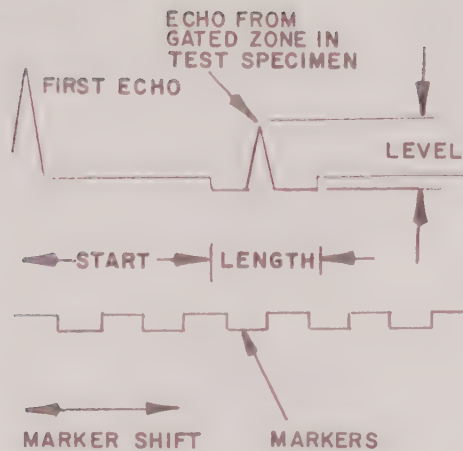

Figure 9-9
Printed circuit board containing circuitry for generation of the square wave used to establish the "gate" or "zone" and the gated video amplifier which passes signals from the UM Reflectoscope through the "zone" to the Recorder Board. Also sends gate image signal to UM Reflectoscope Display (figure 9-9).
Provides coarse positioning of the gate start (figure 9-9).
A coarse control which sets the width (α length) of the gate figure 9-9 .
Establishes the signal level (on the UM Reflectoscope display) at which alarms, relays or on-off printing will be activated or initiated (figure 9-9).
Sets up systems to alarm when any displayed signal within the gate (figure 9-9) increases above the level set by the LEVEL control. The alarm buzzer will sound and the panel light will remain on for a minimum of 0.1 sec., or as long as a signal above the level set remains in the gated area. Alarm circuits reset automatically when the signal decreases in amplitude below the alarm level, or is no longer in the gate.
- (1) Assemble a Search Unit, UM Reflectoscope with Special Function Cabinet, and a test specimen.
- (2) Check that the Fast Transigate unit is in position and properly secured.
- (3) If a Type S Recording Amplifier or a Type R Relay Chassis is being used, check the OPERATION sections on these units for proper procedure.
- (4) Turn on the UM Reflectoscope and with GATE control on Fast Transigate to ON obtain a video trace and marker trace similar to that shown in Figure 9-9.
- (1) With a presentation on the UM Reflectoscope similar to that shown in Figure 9-9 move the pointer on the SYNC control from MAIN PULSE to FIRST ECHO (switch on Time Control unit to I.F.) and observe the effect on the traces. Leave the pointer on FIRST ECHO position. The video and the marker trace are now being synchronized by the first echo (presumably the entrant signal).
- (2) Go next to the GATE controls on the Transigate. Move the START pointer and observe that the gate image is moved across the screen in jumps, and that it will disappear to the right if the sweep circuits on the UM Reflectoscope are not readjusted. Next adjust the vernier on the START control and note that it will position the gate image continuously between the steps created by the pointer. Thus any "zone" in the test specimen after the first echo (from the entrant face) can be set up for examination.
- (3) Next adjust the pointer on the LENGTH control and observe that the width of the gate image (and therefore the width of the "zone" in the specimen subjected to examination) changes in jump steps. Then adjust the vernier on the LENGTH control and observe that it will continuously adjust the gate image width between the steps created by the pointer.
- (4) With the sync control on FIRST ECHO and UM SWEEP DELAY on IF sync, it should be possible to achieve a presentation similar to that shown in Figure 9-9.
- (5) Next manipulate the GAIN control on the Pulser Receiver to vary the amplitude of the echo in the gate and at the same time adjust the vernier LEVEL control on the Fast Transigate and observe that the RESET light and buzzer (if the AUDIO switch in ON) can be activated at various predetermined levels of echo signal. Also move the pointer to + and - AUTO positions and note that in the + position a decrease in signal achieves the same